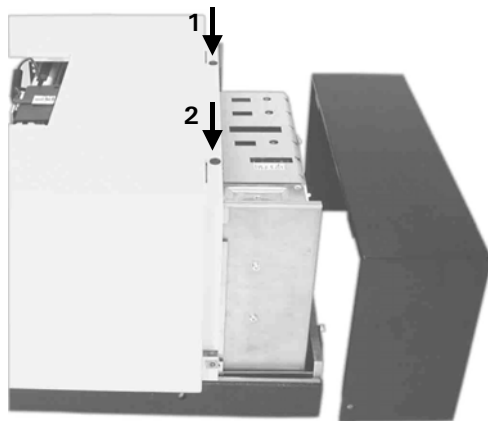

FIGURE 2-2 Removing the Rear Cover
- e) Remove the two screws (item 1, 2; FIGURE 2-2).